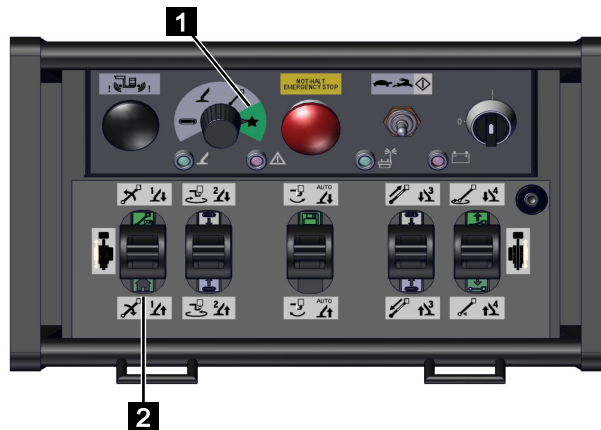

Fig. 146
2. Set the function selector (Fig.146/1) to [special function] (green).
3. Pull the control lever (Fig.146/2) back and hold it there until the platform assembly has reached the transport position.